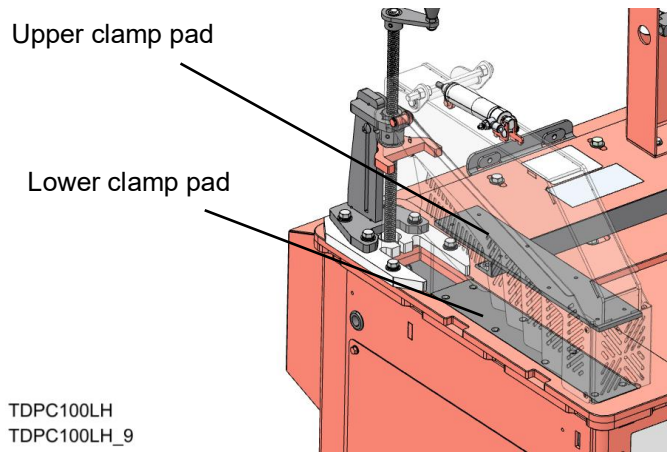

FIG. 6-5
2. Remove (8) screws from top pad and (8) screws from lower pad.
3. Install new pads. See FIG. 6-5